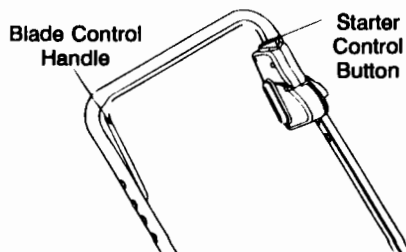

Figure 14
The blade control handle is located on the upper handle of the mower. See Figure 14. The blade control handle and starter control button must be depressed in order to operate the unit. Release the blade control handle to stop the engine and blade and to energize the self starter.
The start control button is located on the upper left side of the handle. See Figure 14. The start control button must be depressed fully while pulling the blade control handle toward upper handle for the engine to start. The starter control button will automatically return to the off/ up position once the blade control handle is released.
4. Turn safety key 1/4 turn clockwise to RUN position.
7. Using your left hand, pull the control handle all the way toward the upper handle. See Figure 14.
3. Turn safety key 1/4 turn clockwise to RUN position.
6. Using your left hand, pull the blade control handle all the way toward the upper handle. See Figure 14. Starter will de-energize and engine will start.